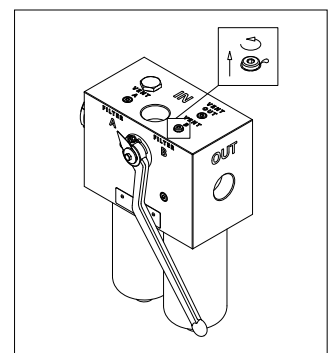

fig. 7
- (Fig. 7) Loose the breather plug on the WASTE SIDE “Vent A” or “Vent B” by a maximum of one turn